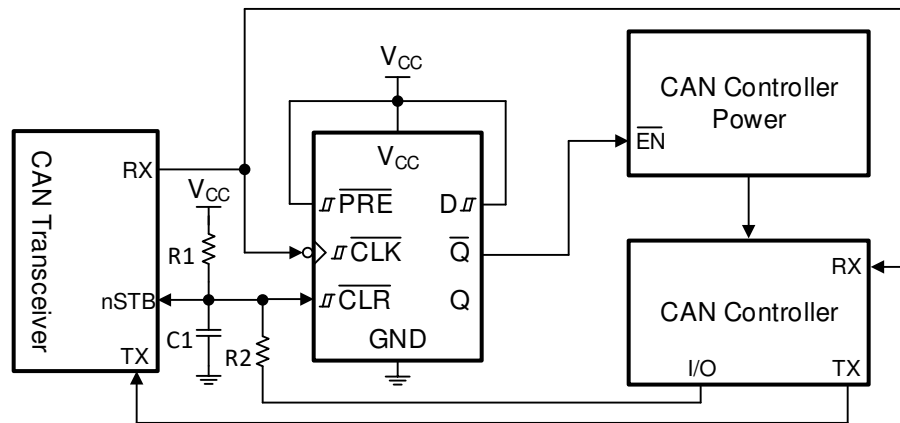

Figure 12. Power Enable Using CAN Wake-up Request
With the SN74HCS72, a power on reset circuit only requires a resistor (R) and capacitor (C) to create a delay. The R and C values create a delay that is approximately $2.2 \times RC$. In this application, it is desired to have the output (\bar{Q}) in the HIGH state at startup, so R1 and C1 are connected directly to the CLR pin, as shown in Figure 12. A second resistor is needed to limit the current into the CAN controller when it sets the circuit back into standby mode. It is required for the R1 resistor to be at least ten times larger than R2 to avoid a divider circuit ($R2 \leq 10R1$).